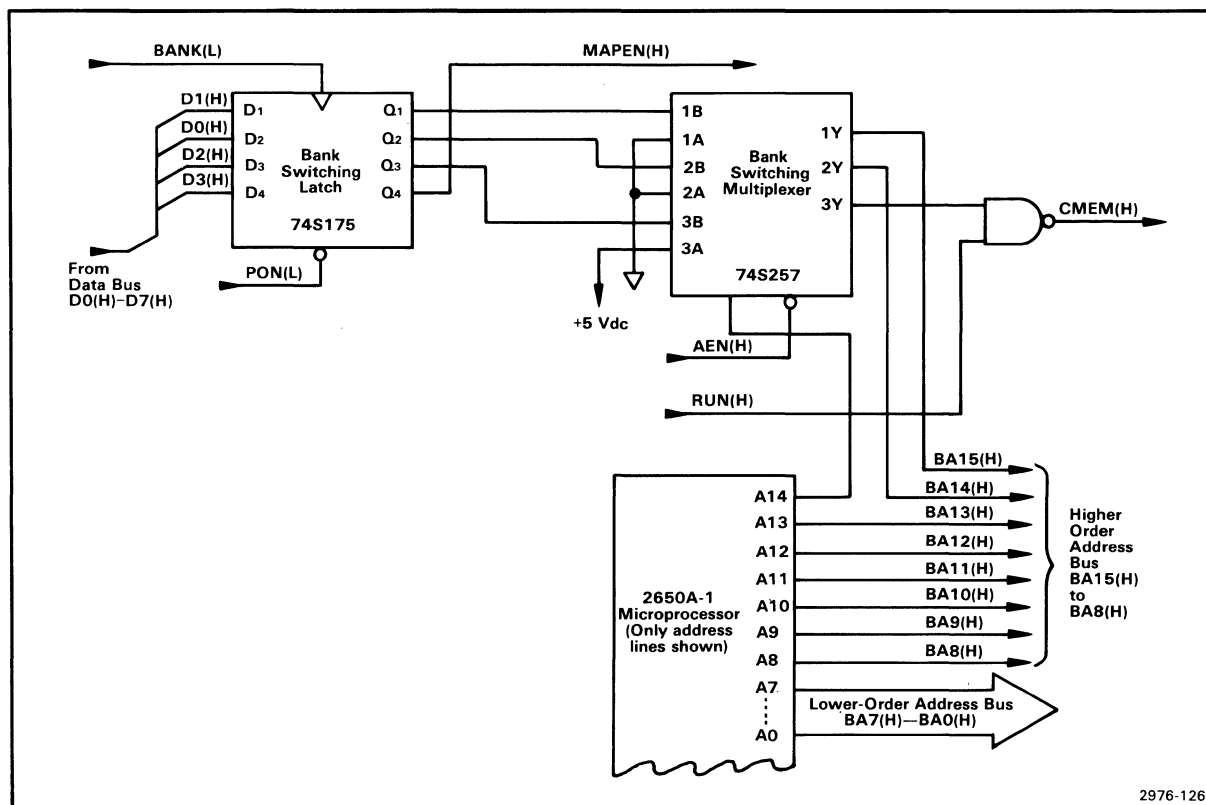

Fig. 9-7. Bank switching simplified schematic.
Referring back to Table 9-5, note that during a write to I/O port address EE the control line BANK(L) is low. Figure 9-7 is a simplified schematic of the bank switching circuitry. Refer to this schematic during the following description of bank switching.
Note in Fig. 9-7 that data bit D3(H) controls the state of MAPEN(H), when the bank switching latch is clocked. When D3(H) is high, the memory map and write protect circuitry can be enabled. MAPEN(H) is one of the inputs to the NAND gate memory map and write protect detector.